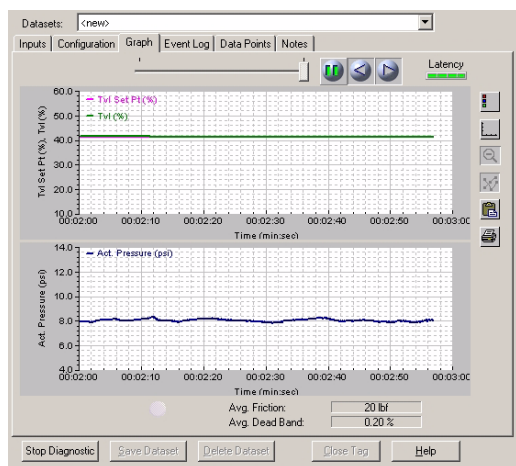

Figure 5. Valve Friction and Deadband Analysis
- On-Line/In-Service Friction and Deadband Analysis (see figure 5)